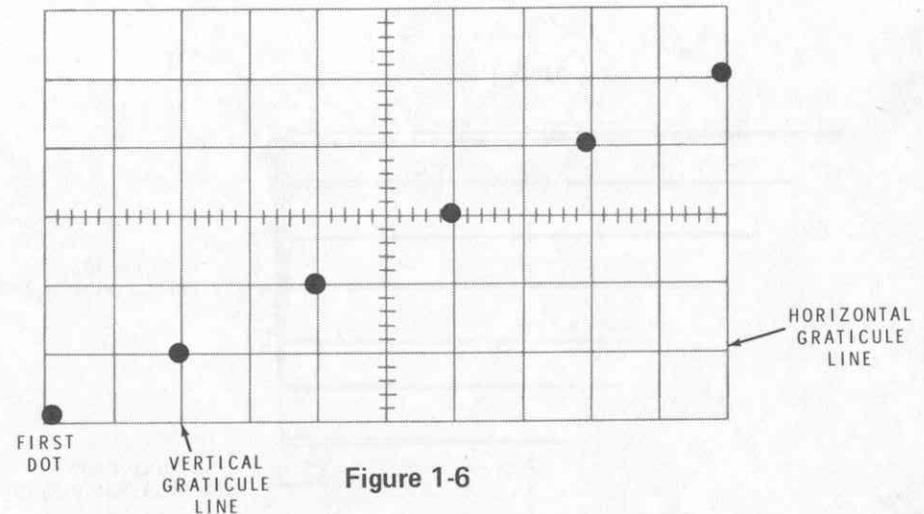

Figure 1-6
- () Turn on the Curve Tracer (until the SWEEP VOLTAGE control just clicks) and slowly turns the STEPS/FAMILY control clockwise until four to six dots appear in a diagonal row and fill the oscilloscope screen, as shown. See Figure 1-6. NOTE: Adjust the HORIZONTAL and VERTICAL SENSITIVITY controls on the oscilloscope if the dots are too widely spaced.